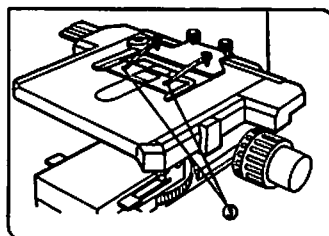

Fig. 37
Adsorption of immersion oil can cause the specimen to drift. In such cases, it is recommended to use the optional specimen clip (BH2-SCB-3) for oil immersion objectives ③. (Fig. 37)